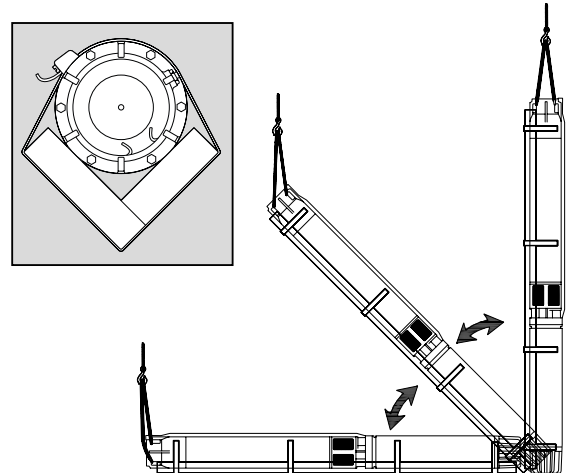

fig. 6
- **Should the assembled group be longer than 180 cm, for positioning it horizontally or lifting it vertically, make use of an auxiliary support in order to avoid damages due to bending stress (fig. 6).**